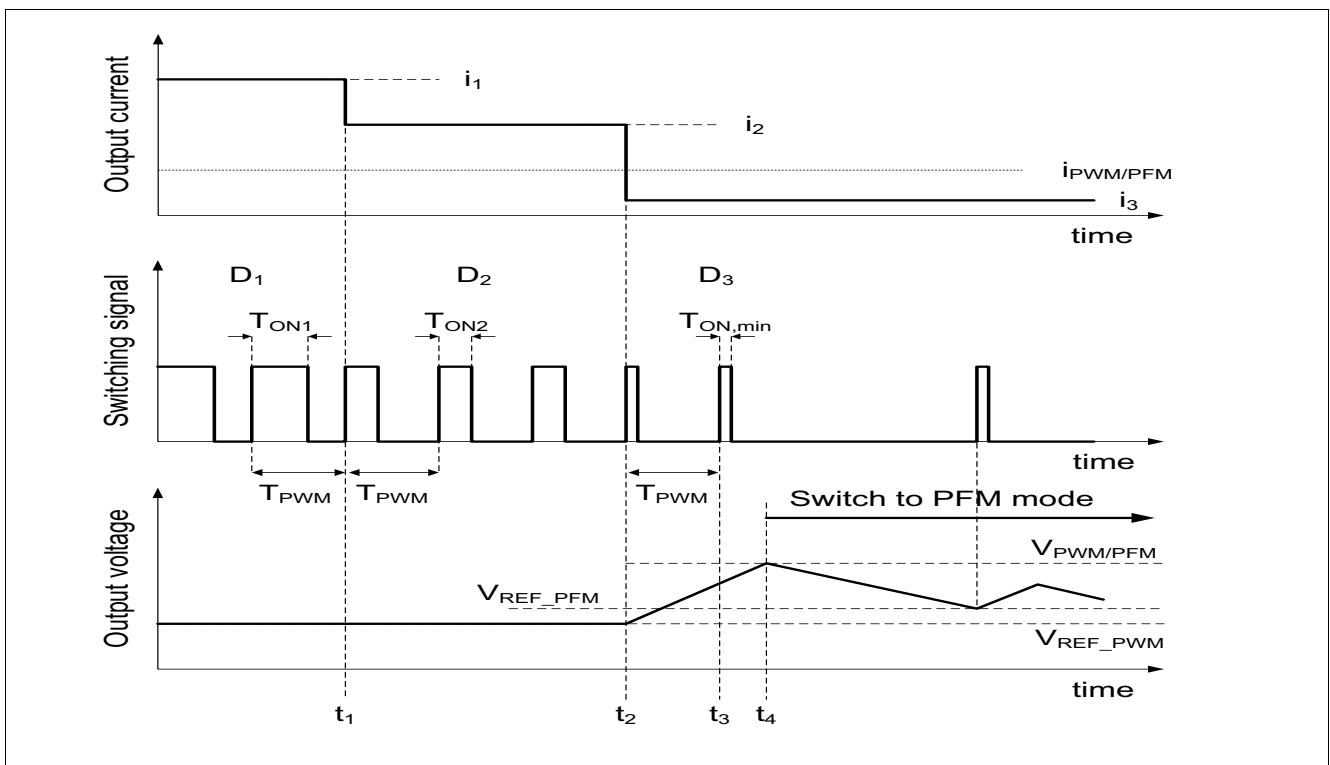

Figure 4 PWM to PFM Transition (Timing Diagram)
**Figure 4** is showing the transition from Pulse Width Modulation to Pulse Frequency Modulation under the assumption, that the input voltage  $V_{\text{S}}$  will be constant and only the output current  $I_{\text{CC}}$  will vary. The diagram shows the principle, in reality the signals might look slightly different. The diagram is without scale in respect of time, voltage and current values.